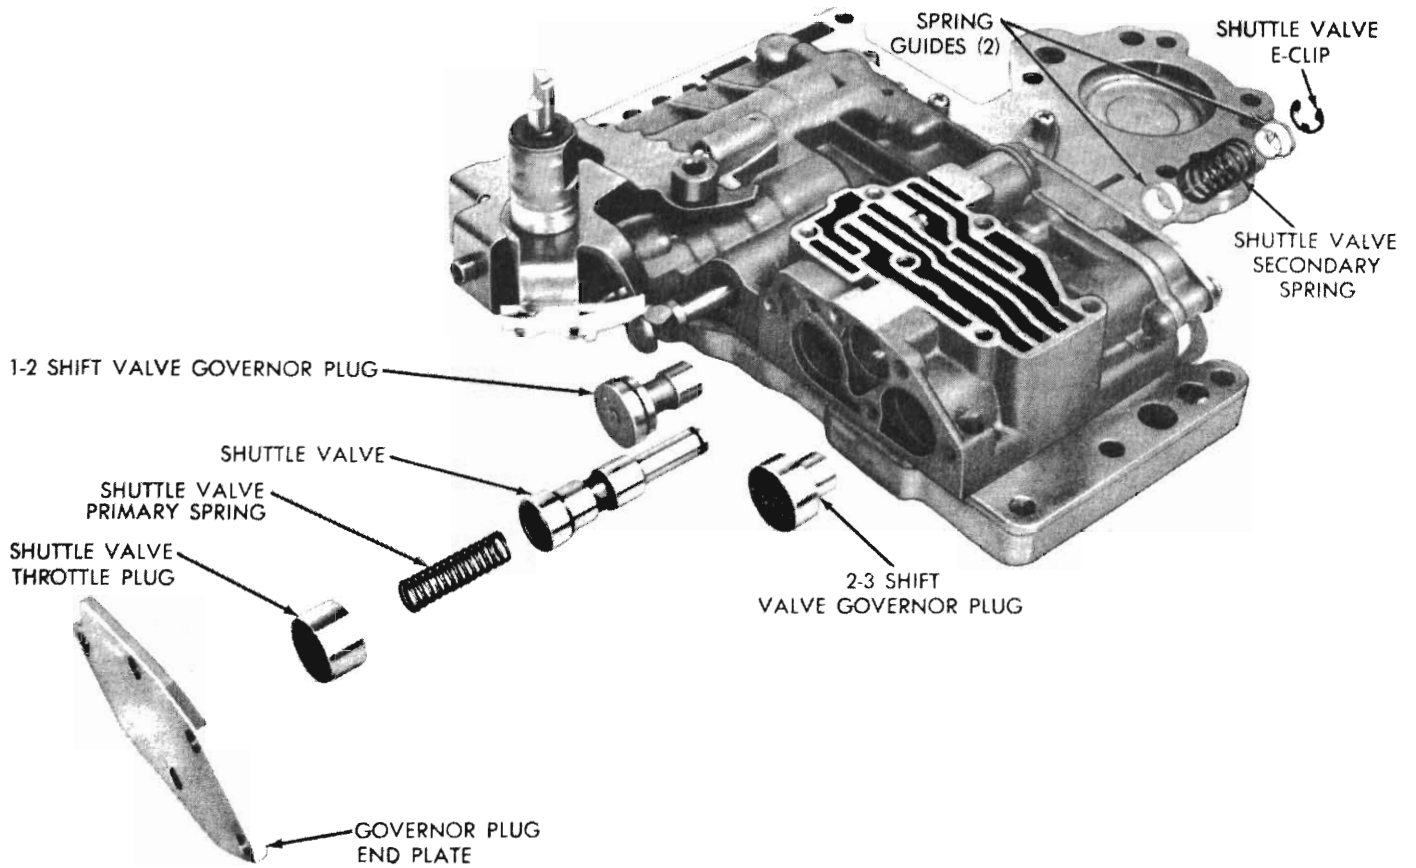

Fig. 56 - Shuttle valve and governor plugs (A-727 and A-904-LA)
(2) Remove governor plug end plate (Fig. 56) and slide out the shuttle valve throttle plug and spring, the 1-2 shift valve governor plug and the 2-3 shift valve governor plug.
(3) Remove shuttle valve "E" clip and slide shuttle valve out of its bore. Also remove the secondary spring and guides which were retained by "E" clip.
**Shuttle Valve and Governor Plugs (Fig. 56)**
(1) Place 1-2 and 2-3 shift valve governor plugs in their respective bores.
(2) Install shuttle valve and hold it in bore with index finger while installing on the other end of it the secondary spring with guides and retaining "E" clip.
(3) Install primary shuttle valve spring and throttle plug.
(4) Install governor plug end plate and tighten the five retaining screws to 28 lbs. in.